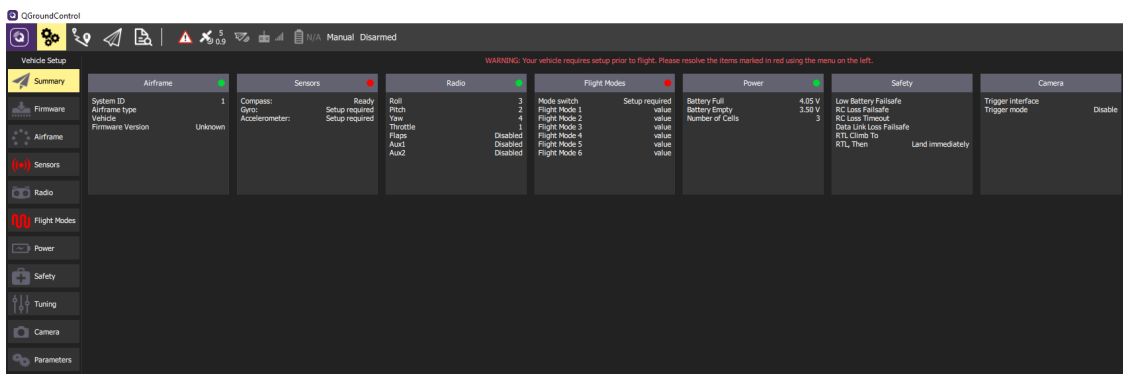

Figure 38: QGroundControl Configuration.
The configuration and calibration is done in the setup menu. You reach the menu through clicking the Settings icon (see. Fig. 38).
2. Go to the `Vehicle Setup` view, select the `Parameters` option, and click the `Tools` button on the right side (see Fig. 38).